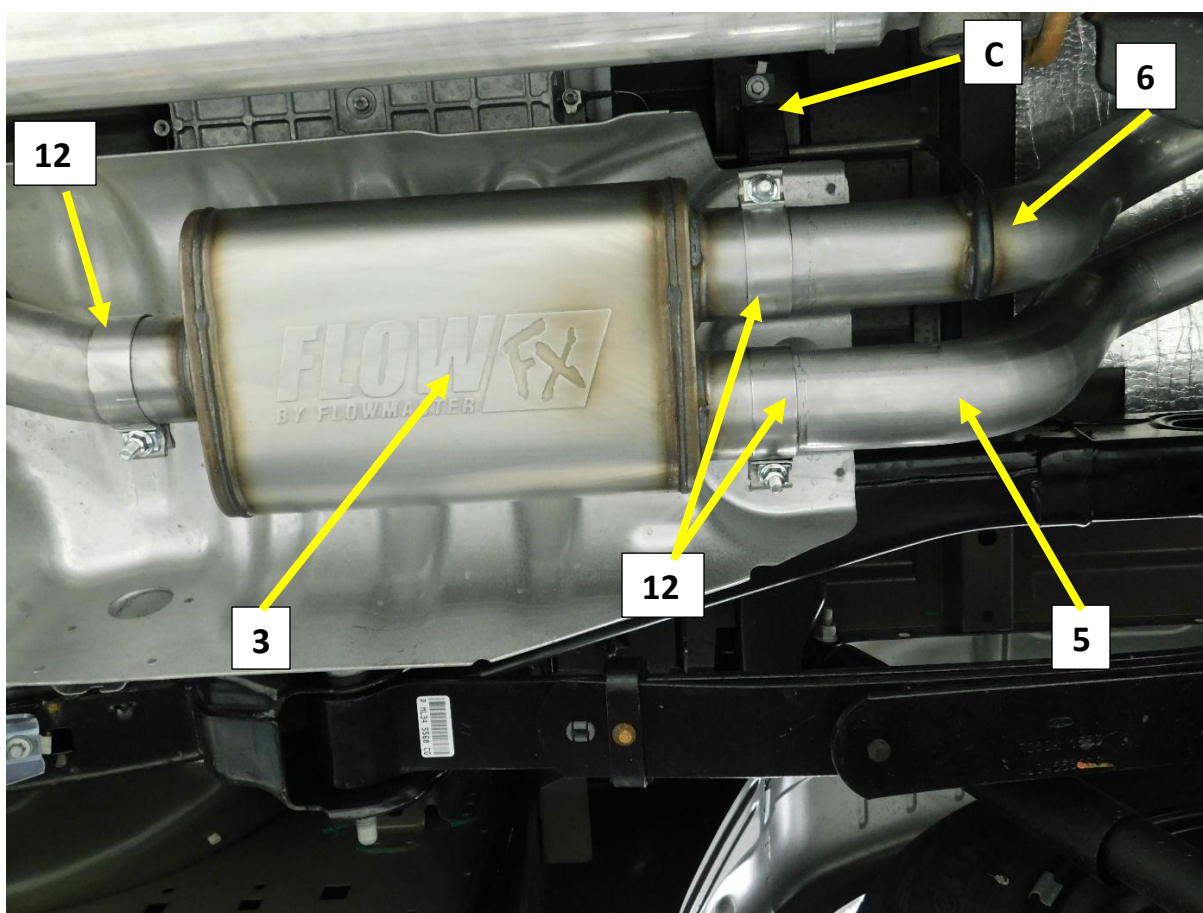

Figure.9
1. Install a 3" band clamp (12) on to each of the three-muffler inlet and outlet pipes with the bolt to the outside and the nut facing down. **Fig.9**
2. Install the FLOW FX Muffler (3) on to the Muffler inlet pipe with the FLOW FX logo facing the ground. **Fig.9**
3. Tighten the inlet clamp (12) to allow for adjustment.
4. Reinstall the muffler hanger assembly (C). * Be sure the tab is in the Slot (not the round hole). **Fig.9**
5. Install the left Muffler Outlet Pipe (6) into the muffler while guiding the hanger rod into the Isolator(C). **Fig.9**
6. Install the Right Muffler Outlet pipe (5) into the muffler and tighten the clamp to allow for adjustment. **Fig.9**